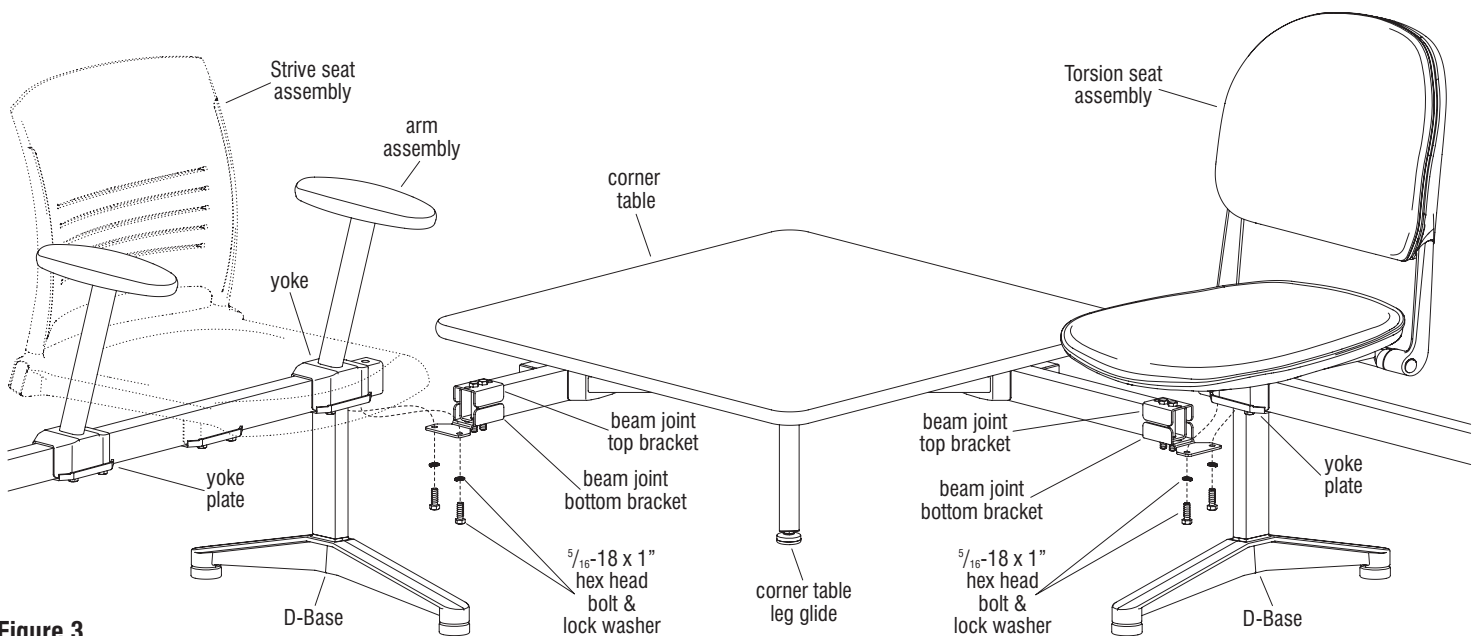

Figure 3
assembled corner table unit. It is recommended to assemble corner table to tandem units at or near their final installation location (Figure 3).
13. At the locations where the corner table beams will attach to the tandem seating unit (either directly under a yoke plate of a D-base or yoke plate of an arm), remove the two outermost bolts of both units at the installation locations as illustrated (Figure 3).
16. Once the corner table beams are securely attached to the beams of the tandem seating units, the corner table beam lengths can be fine-tuned under the corner table, then the four bolts (from step 11) must be tightened, securing the corner table beams to the corner table frame (Figure 3).